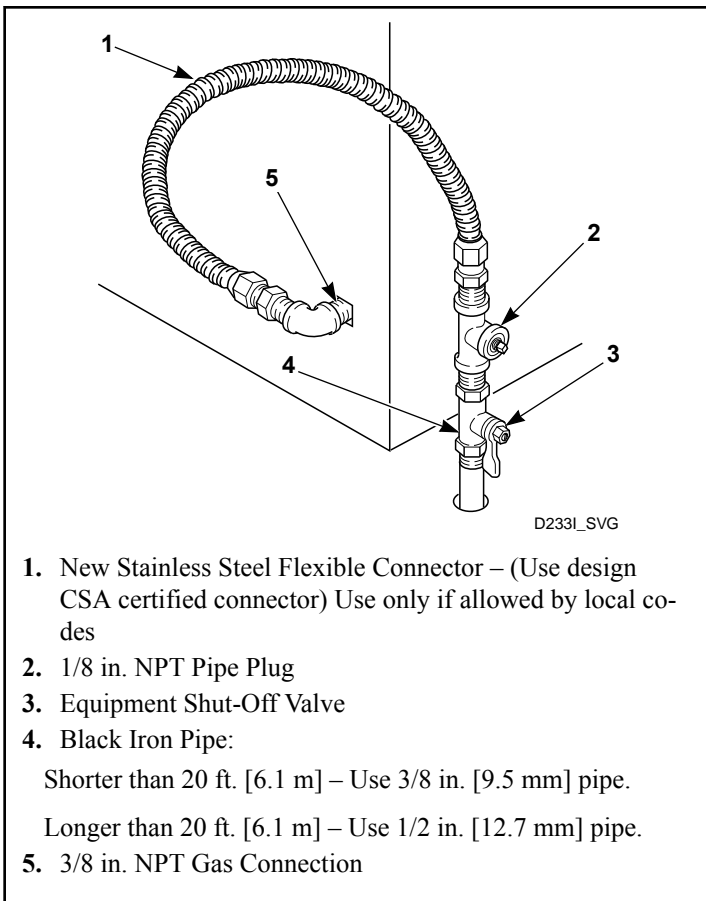

Figure 5
**NOTE: When connecting to a gas line, an equipment shut-off valve in accordance with the National Fuel Gas Code, ANSI Z223.1/NFPA 54 and the Natural Gas and Propane Installation Code, CSA B149.1 must be installed within 6 feet [1.8 m] of the dryer. An 1/8 in. NPT pipe plug must be installed as shown for checking inlet pressure. Refer to *Figure 5*.**